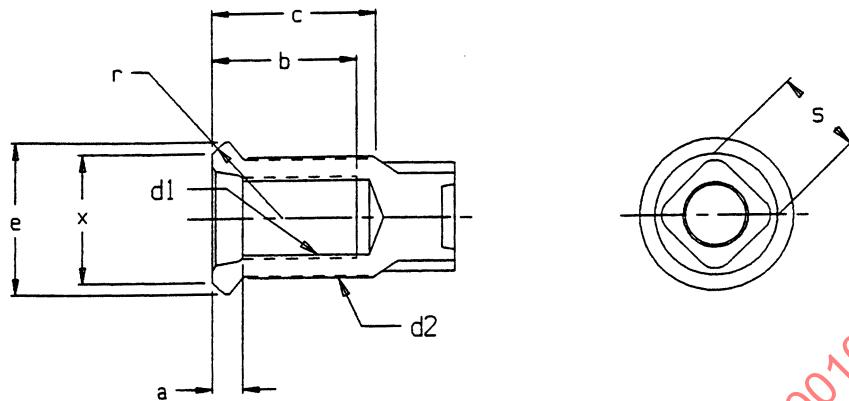

FIGURE 9—INNER DUAL BALL SEAT NUT FOR FERROUS WHEELS
6.3.2.2 Inner Dual Ball Seat Nut for Ferrous Wheels (BSN)—Reference Figure 9 and Table 11.